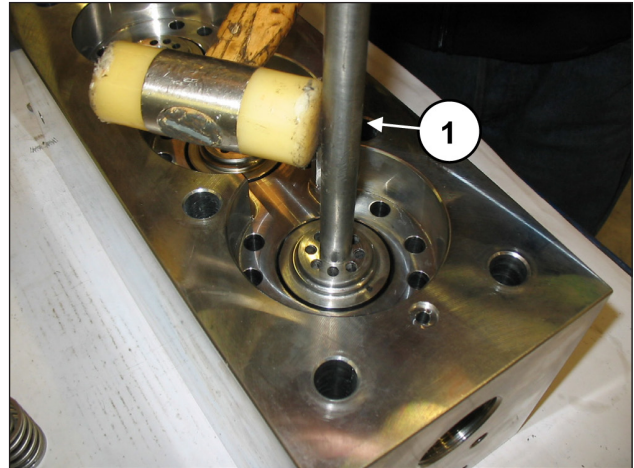

Fig. 115
If the valve seats are blocked on the head due to the formation of scale or oxide, they must be freed by inserting the tool (code 034300020 for SK20-22-24 or code 034300010 for SK26-28-30) in the outlet hole (pos. ①, Fig. 115).